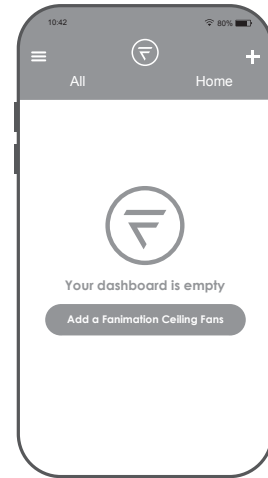

Figure 4
- ☐ 4. After you have created Fanimation fanSync account, you can add your fans in the APP. (Figure 4)